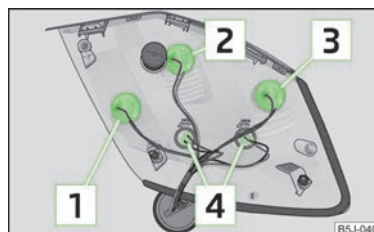

Fig. 155
Bulb arrangement in the tail light assembly » Fig. 155
- To replace the bulb, turn the bulb holder **anti-clockwise** up to the stop and remove it from the housing » Fig. 155.